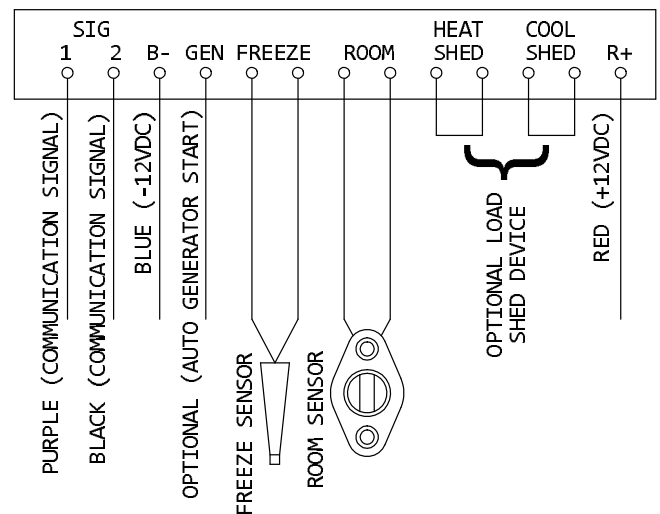

FIGURE 4
9. Attach the thermostat wires to Zone 1 control box per the illustration below (Refer to Figure 4):